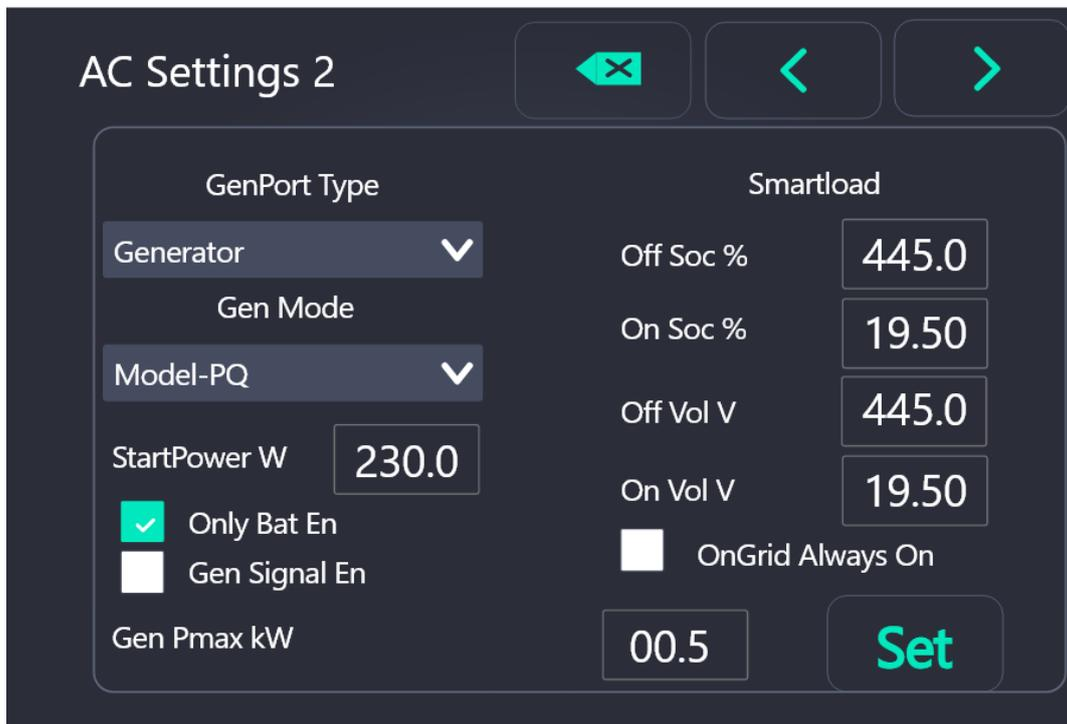

Figure 3.20-1 AC Setting 2
When the GEN port can be connected to a generator, smart load or AC coupling unit (grid-connected inverter), you need to change the GEN interface type in the settings to the corresponding type. The setting path is shown in Figure 3.20-1/2. Click GenPort Type to select the generator interface type as Generator, Smart loads or AC Couple. Please select according to the actual wiring.
- When selecting the oil generator connected to the GEN interface, please confirm that the control line of the generator is also connected to the terminals C~D, NO1\COM1 (generator start control) in the schematic diagram of the external interface board of the equipment as shown in Figure 2.6, select Generator as Generator for GenPort Typee in the power grid setting interface of Figure 3.20-1, and select Gen Mode at the same time. You can choose one of the two operating modes. At this time, when the power grid is cut off and the battery voltage or SOC value is lower than the battery discharge voltage or SOC setting value, the generator will automatically start to power the system.
- When selecting a smart load connected to the GEN interface, select Smart load as GenPort Type in the power grid setting interface of Figure 3.20-1. At this time, the Gen relay will open and the GEN interface will supply power to the smart load.
The function setting definition in Figure 3.20-1:
- When selecting the AC coupling unit connected to the GEN interface, select AC Couple as GenPort Typee in the power grid setting interface of Figure 3.20-1. At this time, AC Couple and the power grid together supply power to the system.